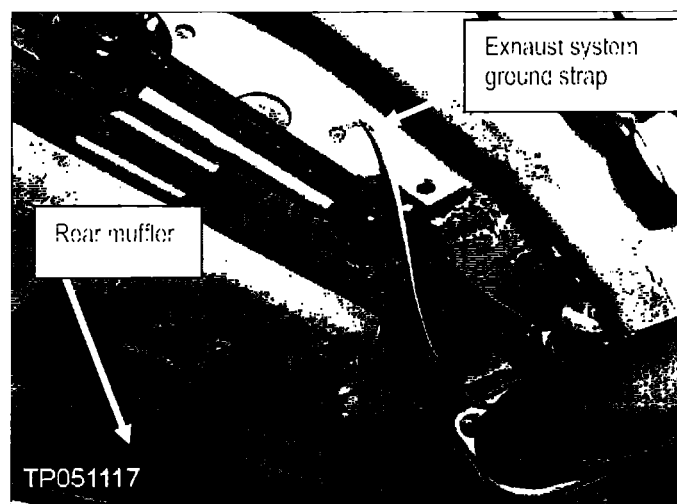

Figure 40
6. Remove the exhaust system ground strap from the vehicle under body (see Figure 40).